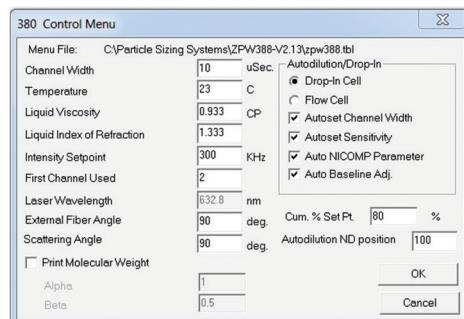

Figure 2. Optimize the algorithm to your sample.
**Reason #3:** Access to algorithm setting to fine tune the measurement to your specific samples (Figure 2).